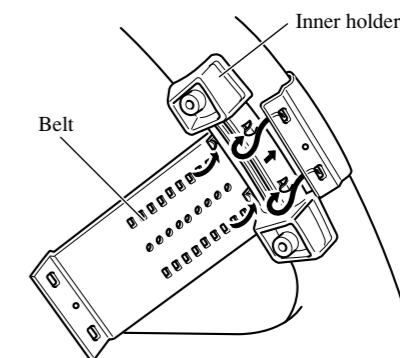

Fig. 14
1. Secure inner holder to the inner circumference of the steering wheel with belt. (Fig. 14)